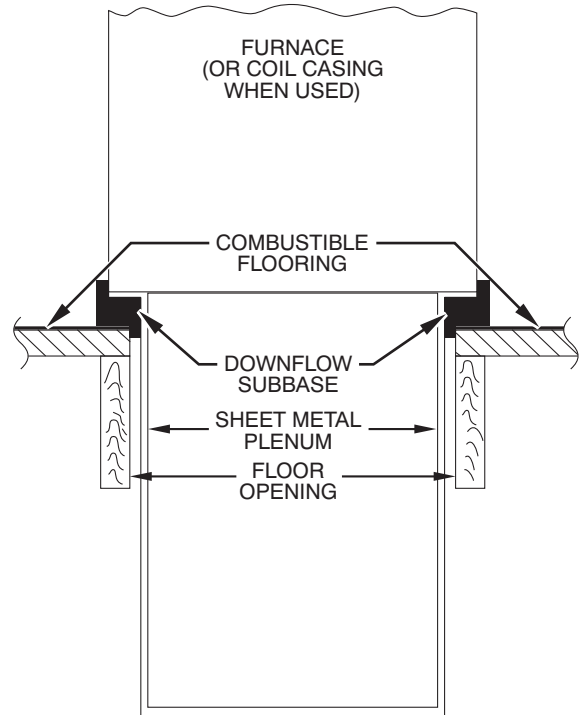
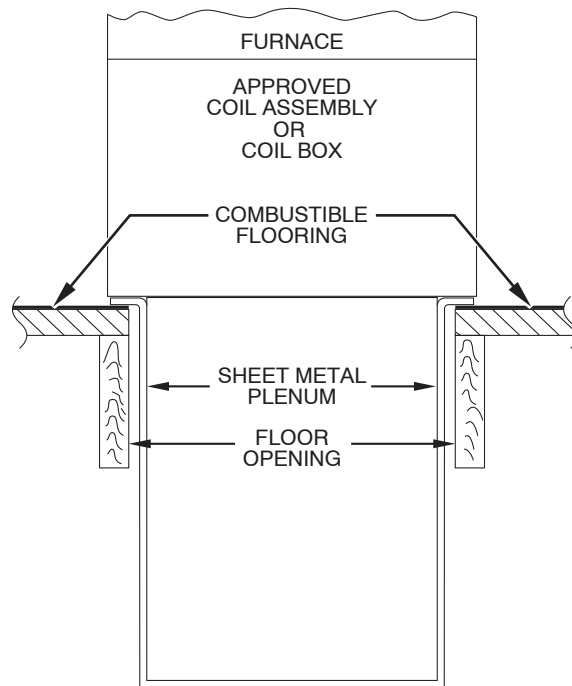

Fig. 12 - Furnace, Plenum, and Subbase Installed on a Combustible Floor
Fig. 13 - Furnace, Plenum, and Coil Assembly or Coil Box Installed on a Combustible Floor
4. If downflow subbase KGASB is used, install as shown in Fig. 12. If Coil Assembly Part No. CNPV, CNRV, CAP and CNR or Coil Box Part No. KCAKC is used, install as shown in Fig. 13.